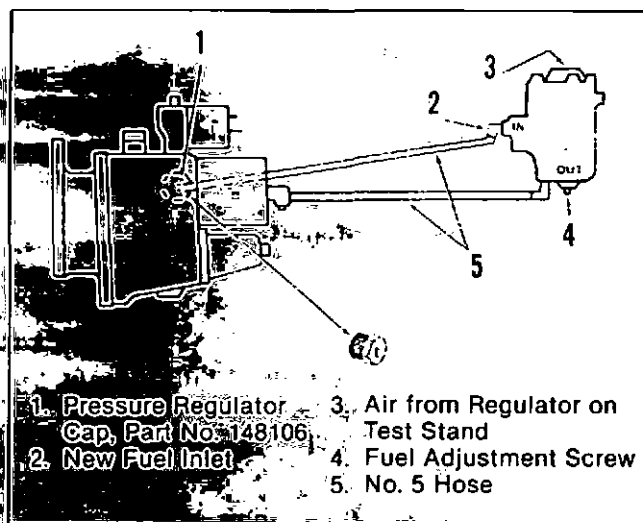

Fig. 16-8. (F5246) Aneroid fuel lines for a PT (type G) fuel pump with a MVS governor and a PT (type G) VS fuel pump with an aneroid housing, Part No. 218081.
2. PT (type G) pumps that have a MVS governor, Fig. 16-8.
- The PT (type G) VS fuel pumps with aneroid housing, Part No. 218081, must be connected per Fig. 16-8. The high-torque rise fuel pump housings, Part No. 201790 or 201791, must also be connected like paragraph No. 3. This fuel pump must not contain the high torque rise (TMD) pressure regulator.